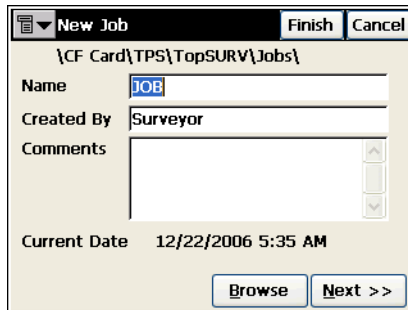

Figure 3-3. New Job
- Tap **New** to create a new job file (Figure 3-3). The following procedure describes creating a new job file.
3. On the **New Job** screen (Figure 3-3), tap **Browse** to choose the location of the job being created. Enter the Name of the job and corresponding information (that is, the name of the surveyor and any necessary comments). The date is stored automatically. Tap **Next** to move to the next screen.